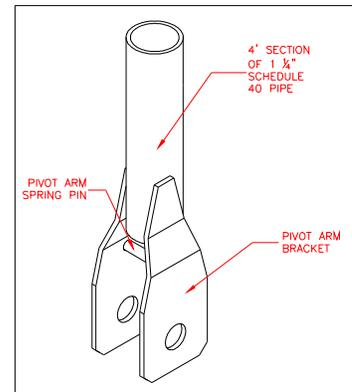

FIGURE 3
- Weld the lower pivot arm assembly together as shown in **Figure 3**.